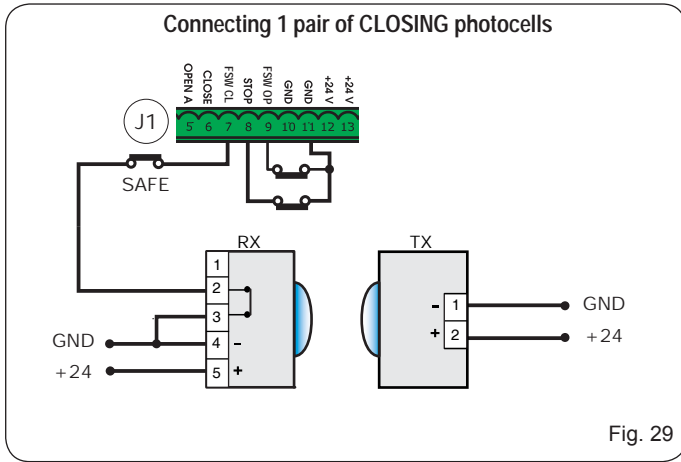

Fig. 29
**⚠ If the connection of two or more safety devices is required (N.C. contacts), they must be placed in series, as shown in figures 29, 30, and 31 under the wording "SAFE".**